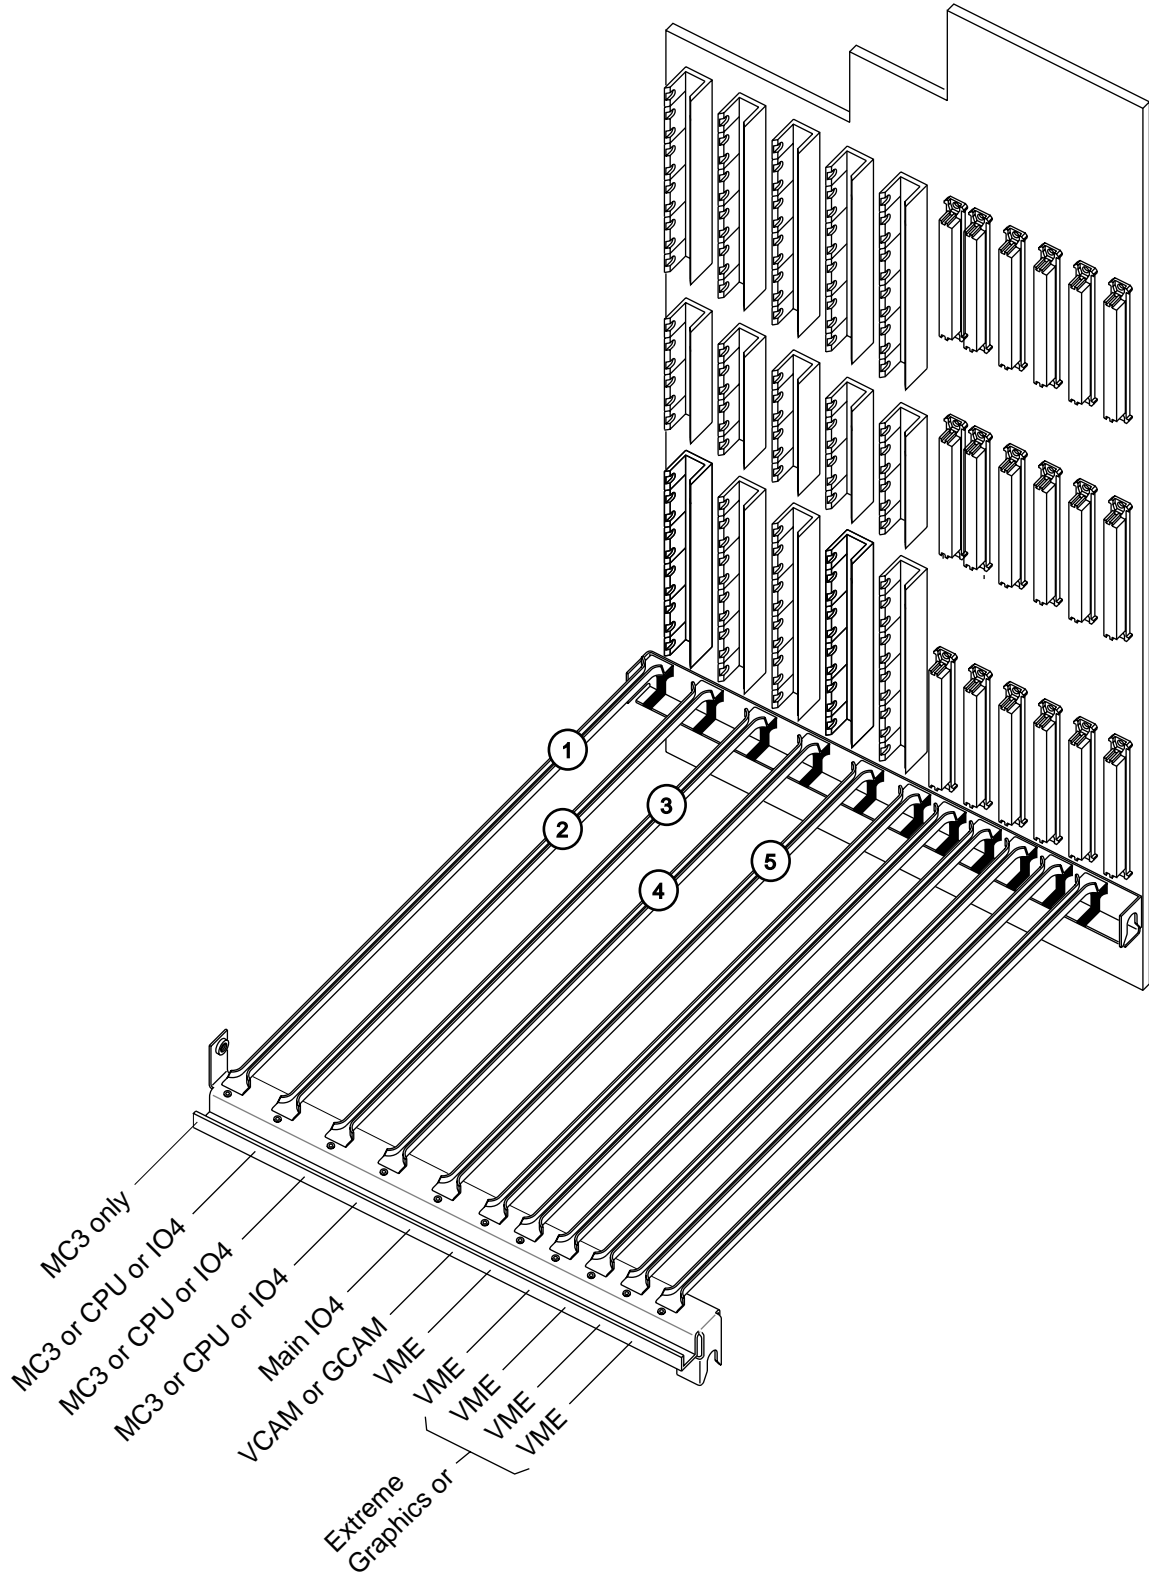
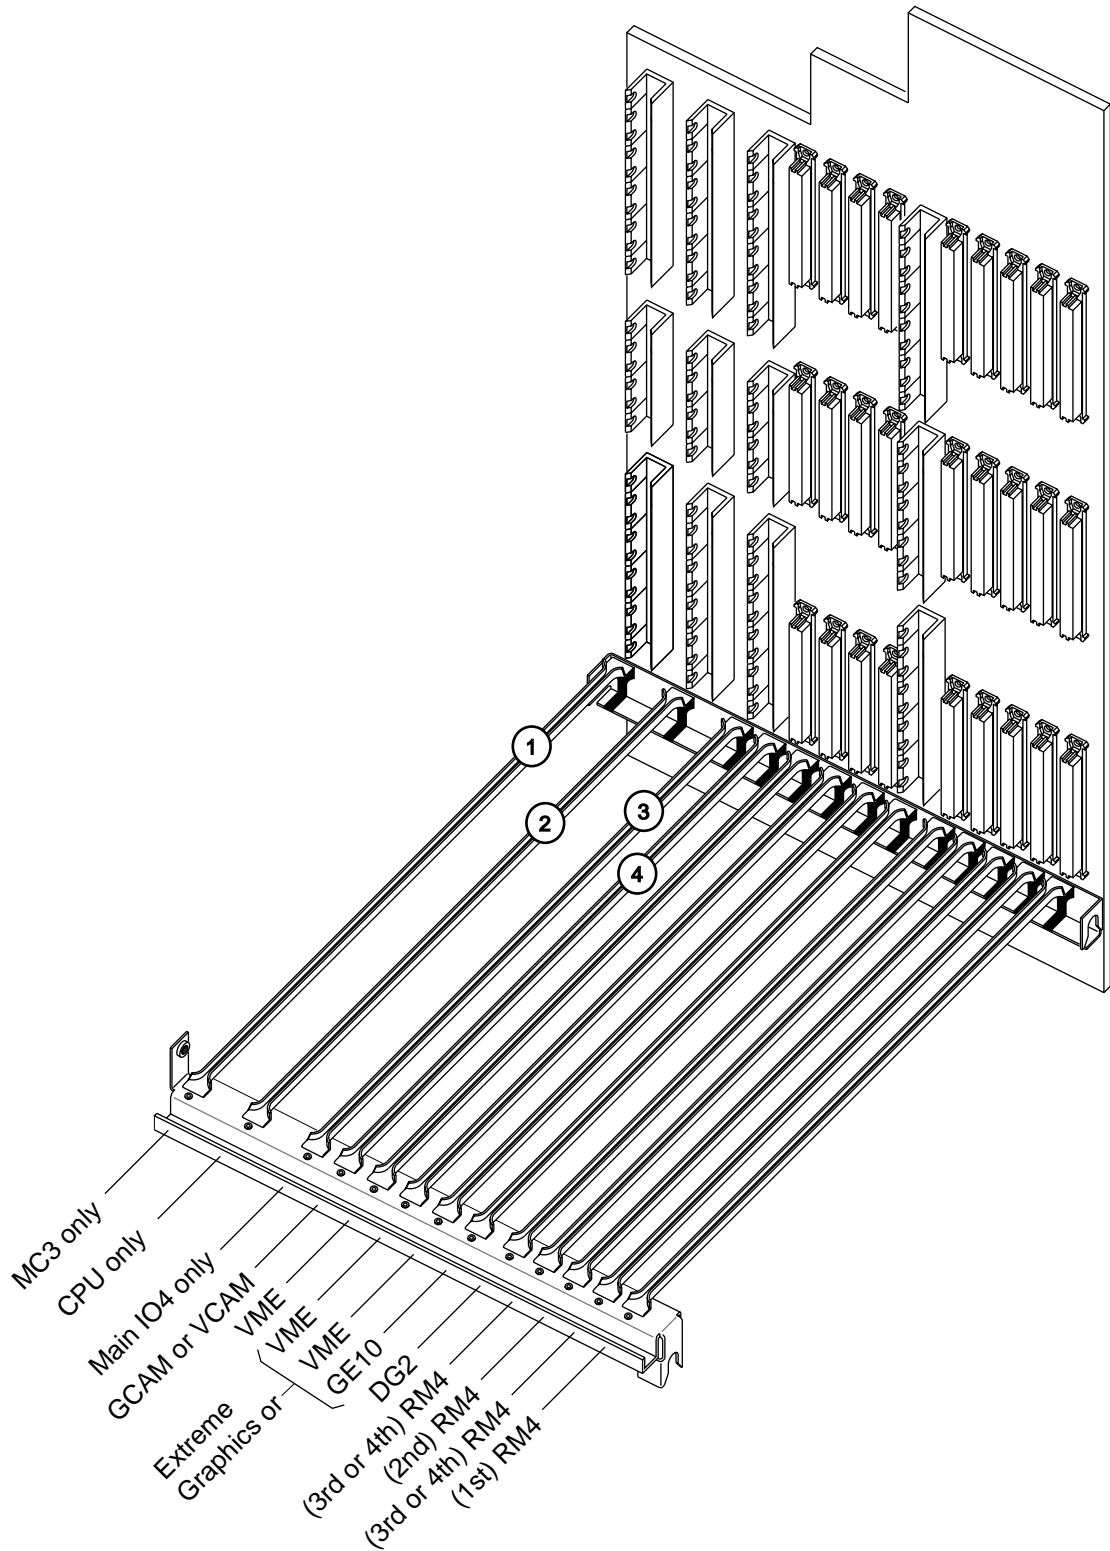

Figure 2-3 CHALLENGE Deskside Slot Assignments
Figure 2-5 Onyx Deskside Slot Assignments
- If there are no unoccupied mezzanine slots, you must install another IO4 board. Figure 2-3 and Figure 2-5 illustrate the maximum number and location of IO4 boards in a deskside chassis.
5. Locate the IO4 boards that are currently installed. Slot 5 always has an IO4 board. (See Figure 2-3 for an illustration of the slots.)
3. Open the front door and pull down the I/O panel in the front of the chassis to access the IO4 board. The board slots should be visible, as illustrated in Figure 2-5.